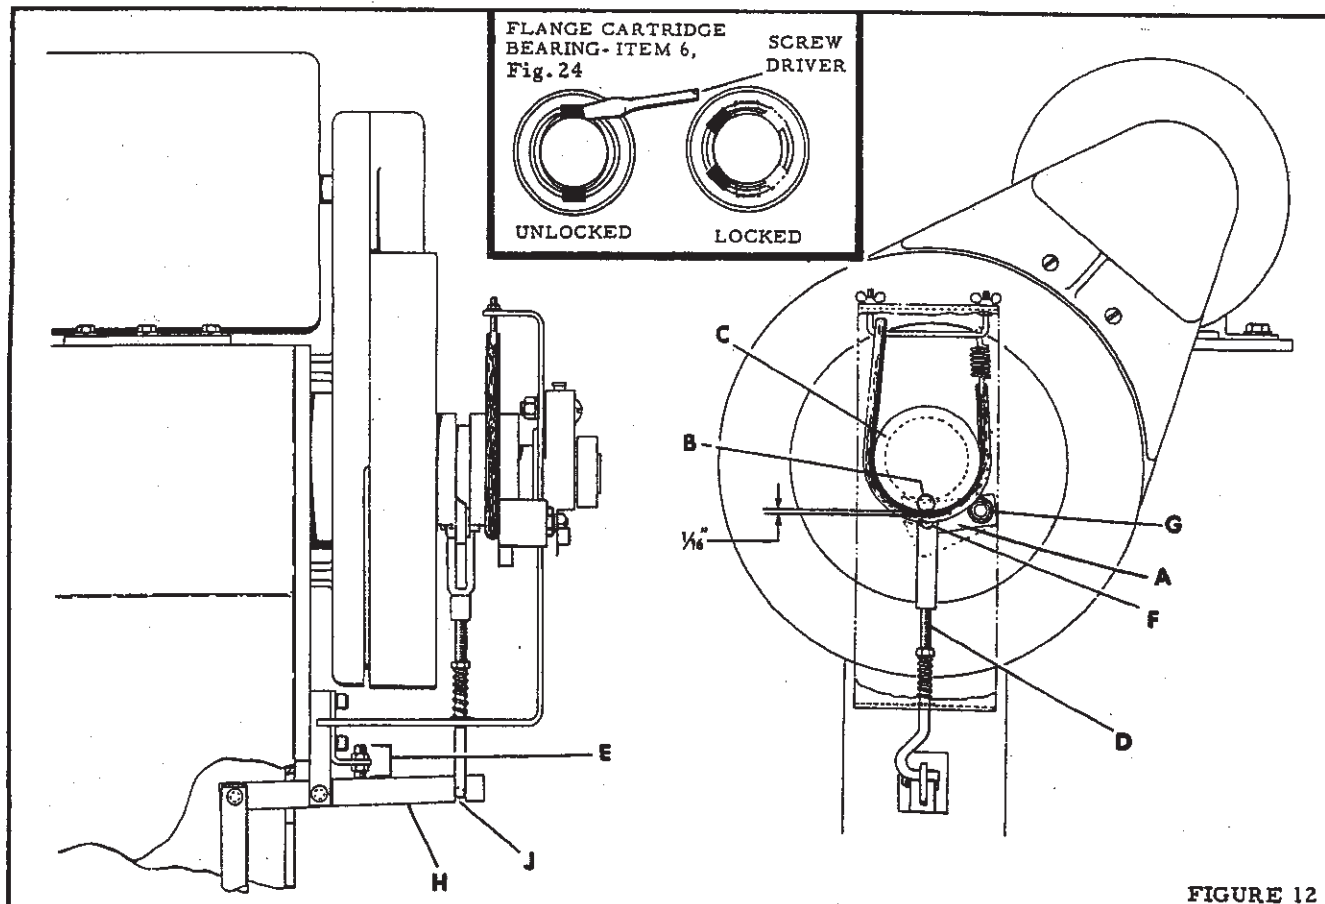

FIGURE 12
Flange Cartridge Bearing: (See Figure 12).
6. Using a screw driver or drift pin, unlock integral locking bearing by moving the clips to their unlocked position, see Fig. 12. Be careful not to scratch drive shaft. Bearing must be re-locked to drive shaft when replacing.
CLUTCH PLATE (SEE FIG. 12).
The clutch plate (index A, Fig. 12) holds the clutch pin (index B, Fig. 12) in a retracted position in the clutch hub (index C, Fig. 12). When the foot pedal is pressed, the clutch plate should lower sufficiently to clear the clutch pin, allowing the pin to spring forward to engage the drive pins in the drive wheel.
Proper clutch plate adjustment requires the clutch plate to be activated by the pull rod (index D, Fig. 12) after the post is in stitching position. The clutch plate must clear the clutch pin (index B, Fig. 12) by about one-sixteenth of an inch when the clutch plate is in its lowered position.
Slowly depress the foot pedal until the post is in stitching position. At this point, pull rod lever (index H, Fig. 12) should only slightly move if it moves at all. If the lever moves too much, lower set screw (index E, Fig. 12). If the lever moves after the post is in position, raise the set screw and securely tighten the nuts.
Pull down on pull rod (index D, Fig. 12) and rotate the drive wheel 1/2 revolution in the direction of the blue arrow on the wheel. The clutch plate should now be in the clutch hub slot as far as it can go. The pull rod should be in pull rod lever slot (index J, Fig. 12) within one-sixteenth of an inch of the top of the slot. If it is necessary to adjust the pull rod to attain this position, pull the rod down and rotate it 90 degrees. Then pull down pull rod lever (index H, Fig. 12) and adjust the rod in or out to attain its proper position. Turn the pull rod 90 degrees and put into lever slot (index J, Fig. 12).
Infrequently the machine may fail to stitch because the clutch plate has raised a burr on the clutch pin or hub; a condition that will cause the clutch pin (index B, Fig. 12) to stick in the hub. Remove burr to resume operations.
To extract clutch plate, take out cotter pin and clevis pin (index F, Fig. 12) and remove hex nut and washer, Index G. Assemble in reverse order.